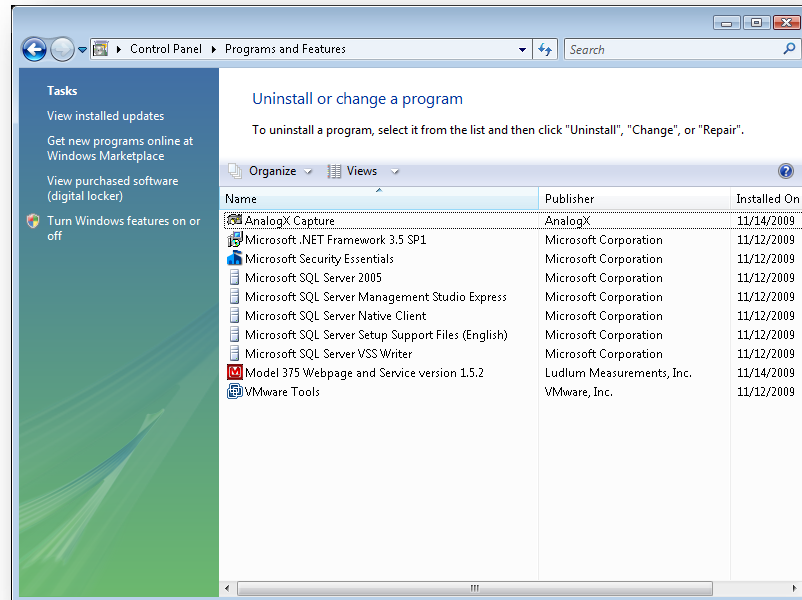

Figure 22 – Program and Features
3. See Figure 22 for a screen shot of the Programs and Features window.